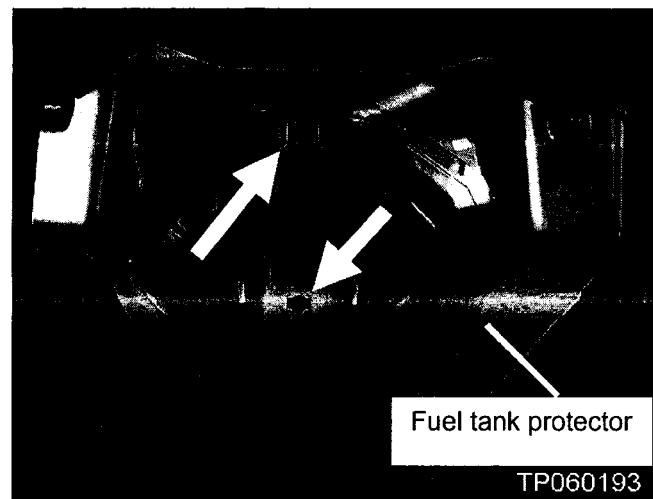

Figure 52
6. Use a small flat blade screwdriver (pocket screwdriver) to release the 2 clips show in Figure 52, then remove the fuel tank protector.